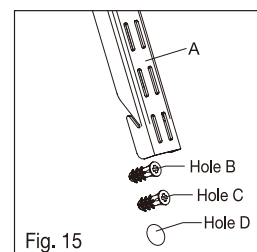

Fig. 15
- ☐ Drill 1/4 in. holes for hole B and C, drill 1/2 in. hole for hole D. Insert wall anchors (1/4 in.) into hole B and C (see Fig. 15).